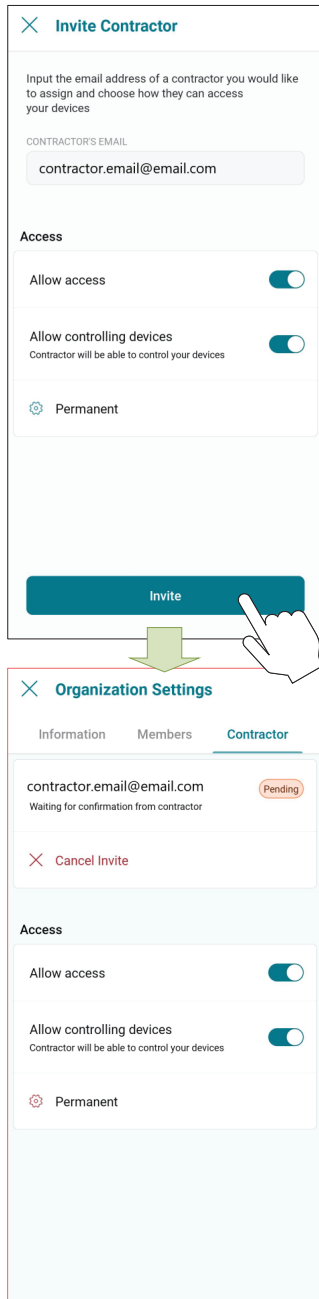

Figure 114. Send the Invite
- When ready, press **[Invite]**. An invitation/request will be sent to the contractor's Raymote account. See Figure 114.